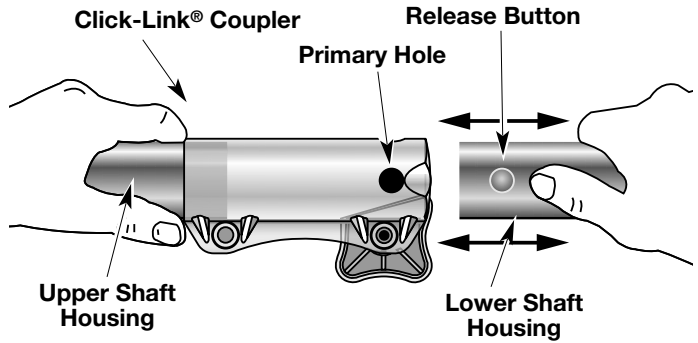

Fig. 8
2. Press and hold the release button (Fig. 8).
2. While firmly holding the add-on, push it straight into the Click-Link® coupler (Fig. 8).
NOTE: Aligning the release button with the guide recess will help the installation (Fig. 8).